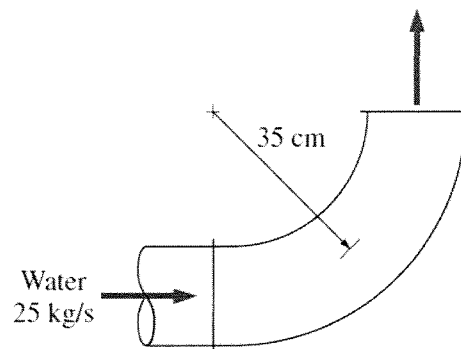

Figure Q5 (a)
- (a) A 90° elbow is used to direct water flow at a rate of 25 kg/s in a horizontal pipe upward as shown in Figure Q5 (a). The diameter of the entire elbow is 10 cm. The elbow discharges water into the atmosphere, and thus the pressure at the exit is the local atmospheric pressure. The elevation difference between the centers of the exit and the inlet of the elbow is 35 cm. The weight of the elbow and the water in it is negligible. Assume the pipe is frictionless.